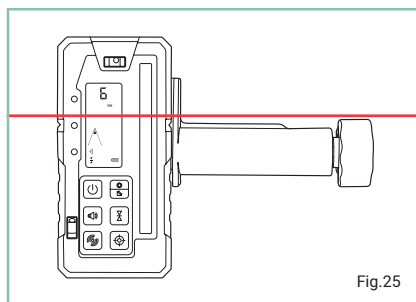
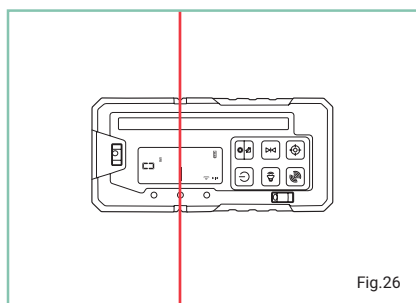

Fig.25
Fig.26
- Move the detector into the path of the beam. Hold the detector upright for horizontal beams (Fig.25) or rotate 90° for vertical beams (Fig.26).